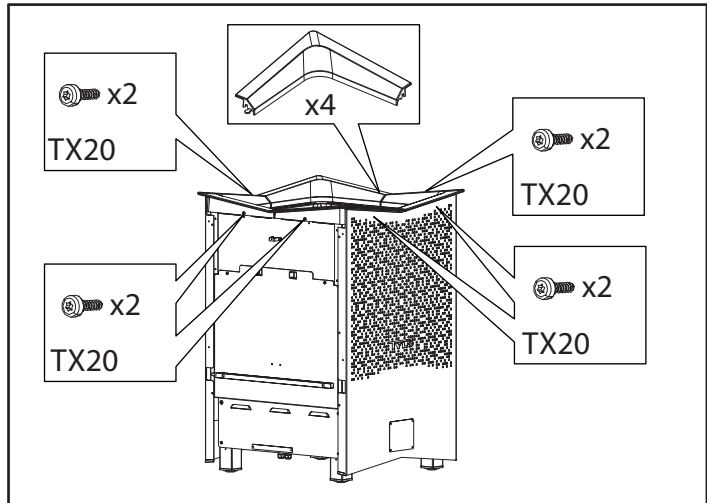

Figure 8: Secure the 4 top corners
2. Screw on the 4 top corners, see Figure 8.